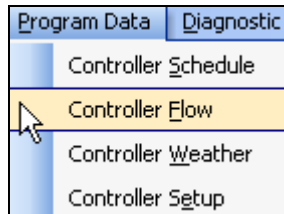

Figure 16.10.1D
- In the toolbar at the top of the screen select **Program Data** then scroll down to **Controller Flow** and click on it (Figure 16.10.1D).